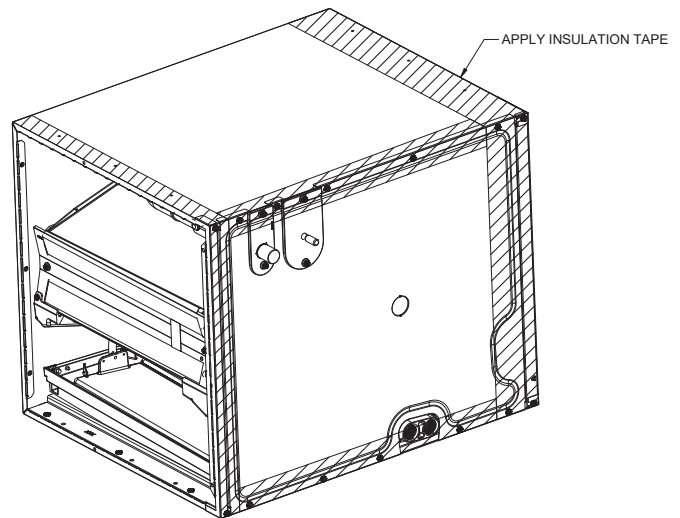

Figure 18
**IMPORTANT NOTE: To PREVENT CABINET SWEATING AND AIRFLOW LEAK, APPLY FIELD PROVIDED INSULATION TAPE ALONG ALL JOINING SURFACES BETWEEN THE COIL, GAS FURNACE, DUCT WORK AND PANELS. SEE FIGURE 18.**